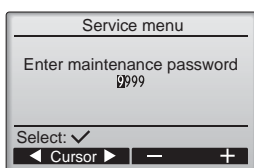

Fig. 6-2
- ① Select "Service" from the Main menu, and press the [SELECT] button.
- ② When the Service menu is selected, a window will appear asking for the password. (Fig. 6-2)